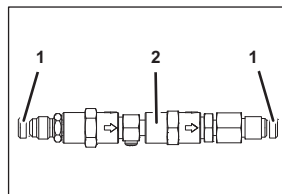

Figure 103
3. Check the seals (Figure 103/1) for damage. Replace any damaged seals (Figure 103/1).
4. Position the new non-return valve (Figure 103/2) within the unit.